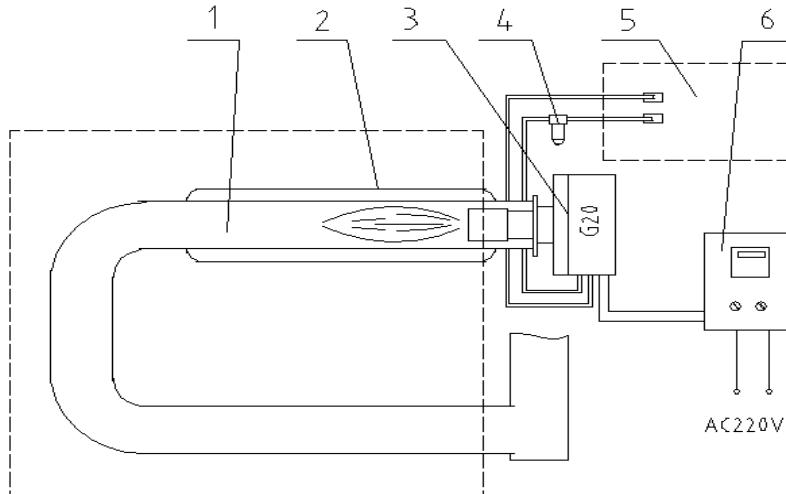

Fig. 4 Asphalt heating system
1. The combustion heating system (as shown in Fig. 4) consists of U-shape combustion chamber, heat transfer oil heating chamber, fuel tank (i.e. main fuel tank of the truck), burner, and temperature control box. The diesel from the main fuel tank of the truck reaches the burner through the filter, is mixed with air, atomized, and sprayed into the combustion chamber for combustion. The exhaust gas is discharged from the flue. The heat around the combustion chamber can heat the asphalt inside the tank. The size and temperature of flame can be regulated via the temperature control box.